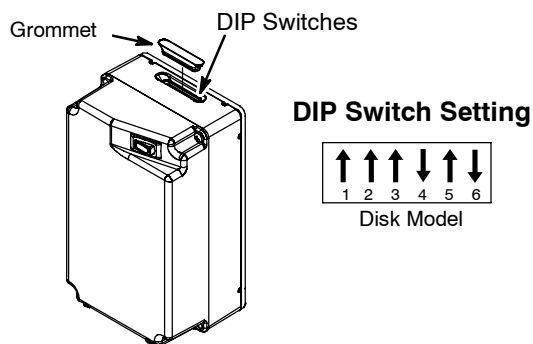

Fig. 37
8. Set the module dip switches accordingly and install grommet [p/n 1050431] (Figure 37).
11. Adhere the foam strips to the bottom of seat panel as shown (Figure 37).